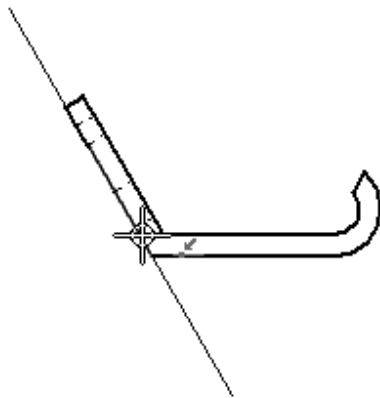
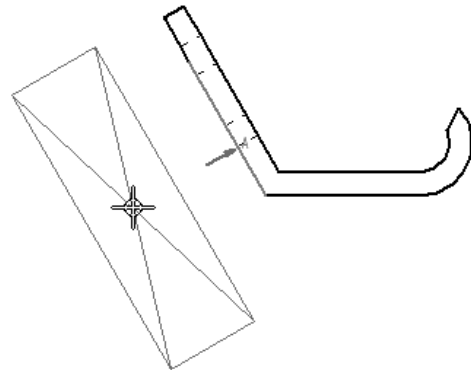
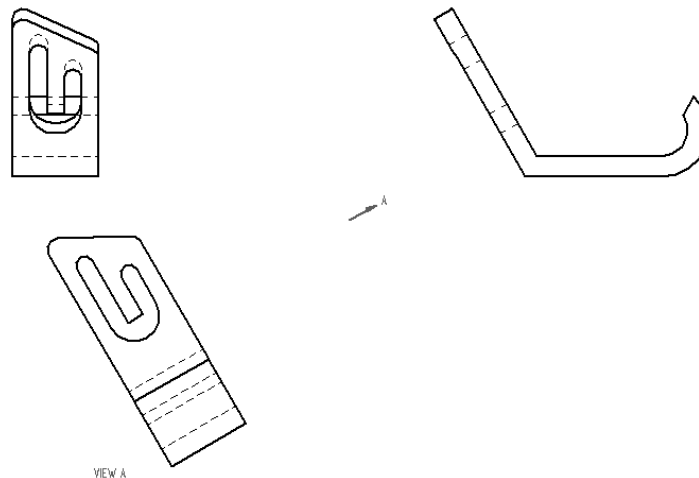

Figure 12-39 Edge to be selected
Figure 12-40 Moving the cursor to place the view
Figure 12-41 Drawing sheet after generating the auxiliary view
2. Select the edge, as shown in Figure 12-39; an imaginary fold line is formed and the auxiliary view is projected normal to this fold line. Move the cursor to the left to place the view, see Figure 12-40. After you place the view, an arrow pointing in the direction normal to the fold line is displayed, as shown in Figure 12-41.